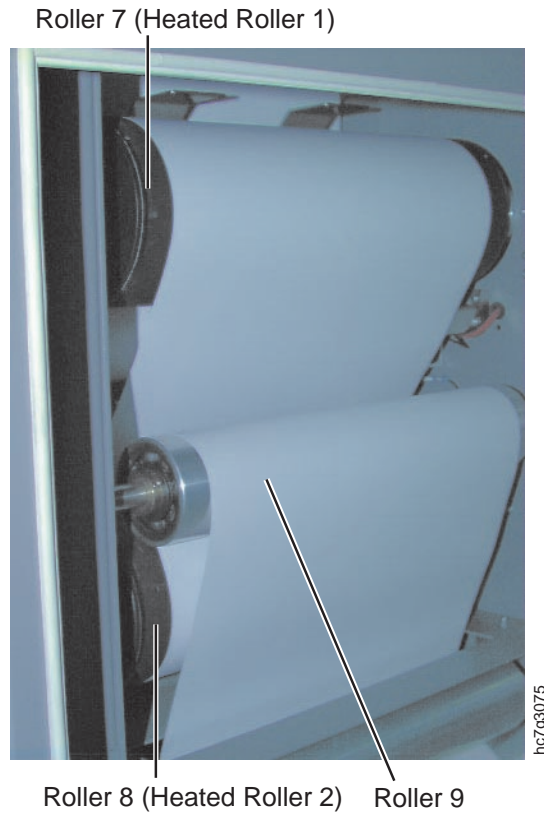

Figure 313. Threading Around Rollers 7 and 8
17. Thread the print medium over roller 7 (heated roller 1) and under roller 8 (heated roller 2), as shown in Figure 313.